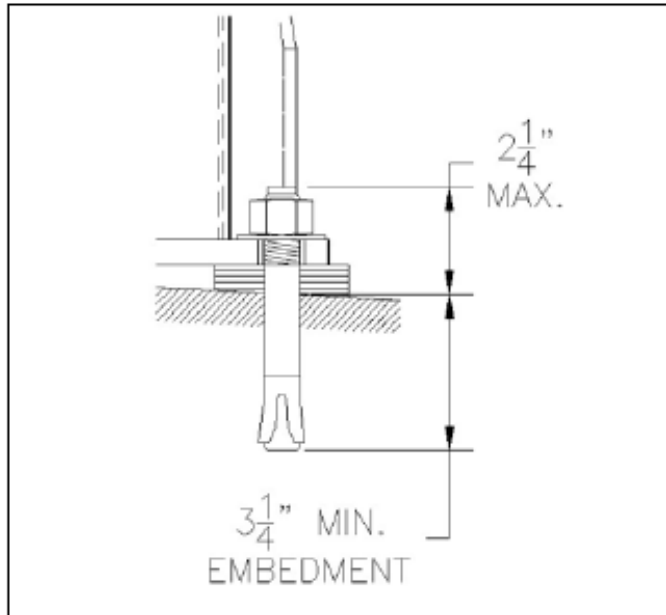

Figure 30: Embedment
8. Check the distance from the top of the anchor to the floor. If this dimension exceeds 2 1/4" due to floor slope, **DO NOT** use the supplied anchors. Longer anchor must be used. See **Figure 30**.
NOTE: The 3/4" x 5 1/2" lg. wedge anchor bolts supplied must have a minimum embedment of 3 1/4" into concrete floor (see **Figure 30**).